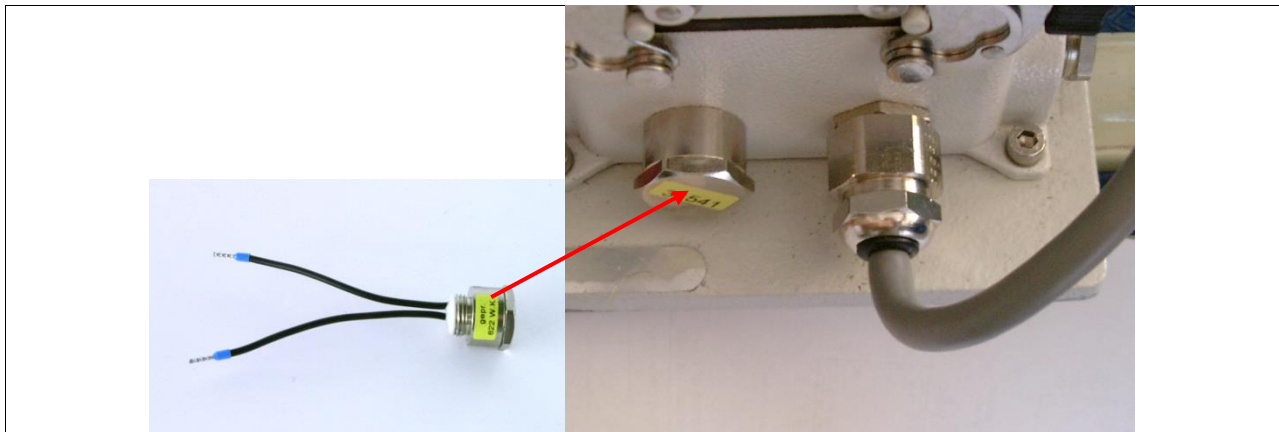

Figure 27: Cable entry and bus-terminator on the bottom side of the VISATRON® device
The connection to the monitoring devices is accomplished via a RS485 two-wire bus. In case of a Remote Indicator II installation the connection is only a two point link. The bus system at the OMD device must be terminated by the resistor. It is integrated in the terminator (see Figure 27+Figure 28), which is supplied with the monitoring device.
The used communication cable must be twisted pair and shielded. We recommend LAPPKABEL UNITRONIC-FD CP (TP) plus UL-CSA, AWG20. The total bus length is limited to 400 m. The VISATRON® device cable entry (see Figure 27) at the VISATRON device is designed for cable diameter between 7.5 and 10.0 mm.